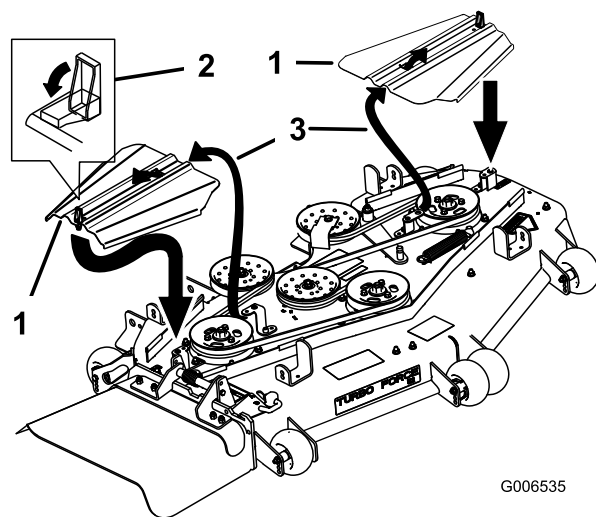

Figure 73
12. Install the belt covers by sliding the cover into the tab, install the bolts, and close the latches (Figure 73).